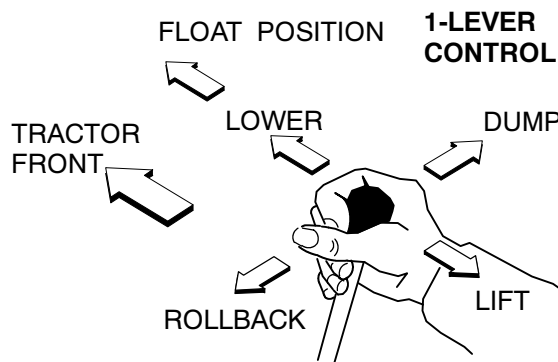

Figure 20 Single Lever Control Operation
1. Control valve kit contains 54" hoses assembled with quick couplers. Attach hoses to valve work ports A, B, C, and D, following the color scheme shown in Figure 20.
2. Identify the corresponding feedline locations and connect opposite end of each hose to loader feedlines as shown in Figure 20.
- D - BOOM CYL. BASE END (UP) - **GREEN**
2. Connect loader feedline hoses to control valve hydraulic couplers. See Figure 20.